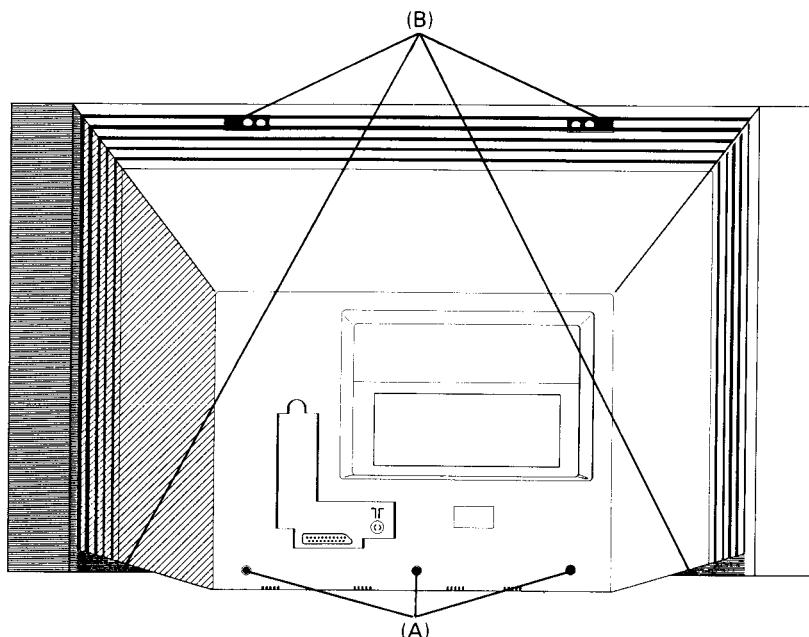

Fig. 3 Abb. 3
1. Remove 3 x Screws (A). (Fig. 3).
2. Use small flat screwdriver to push down 4 plastic clips (B), then remove rear cover.
1. 3 Schrauben entfernen (A). (Abb. 3).